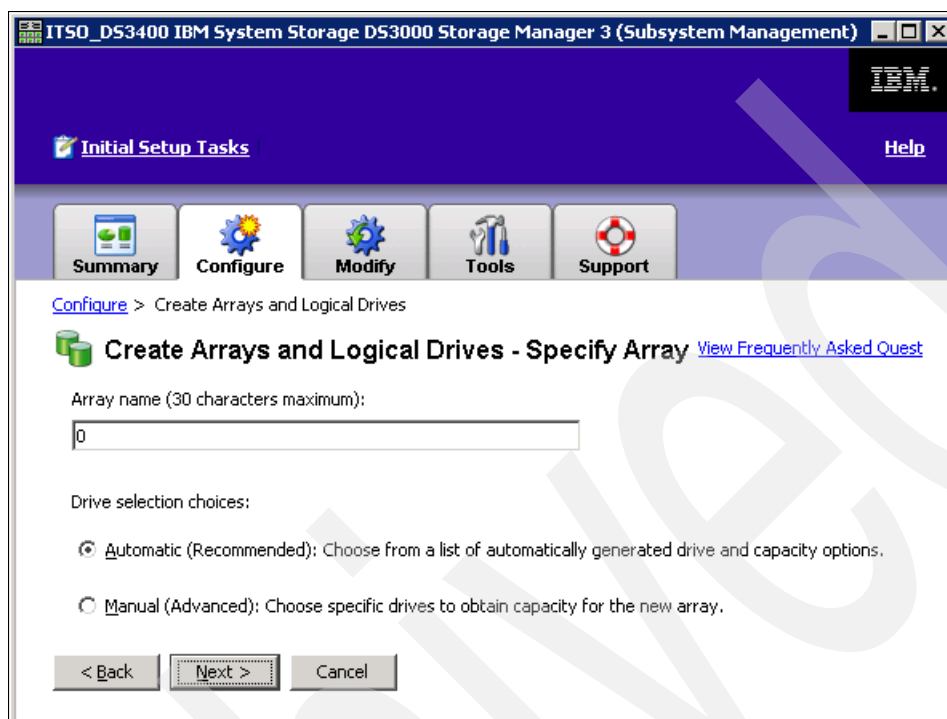

Figure 9-48 Create Logical Drives - Drive selection choices
2. Next we define the array. This requires two parameters: RAID level and a set of physical disk drives to be used in the array. As you can see in Figure 9-48, the array can be defined automatically (recommended) or manually.